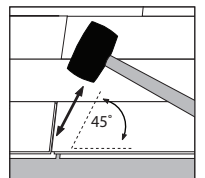

Figure 5
2. Align the next piece by overlapping the end of the first board. Tap the joint with the rubber mallet using a downward angle striking motion towards the adjoining tile (Figure 5) until the tongue and groove lock together to secure the joint on the ends. Continue in this manner until reaching the final plank in the first row.
4. Tap the joint with the rubber mallet using a downward angle striking motion towards the adjoining end joint (Figure 5) until the tongue and groove lock together on the side and ends.